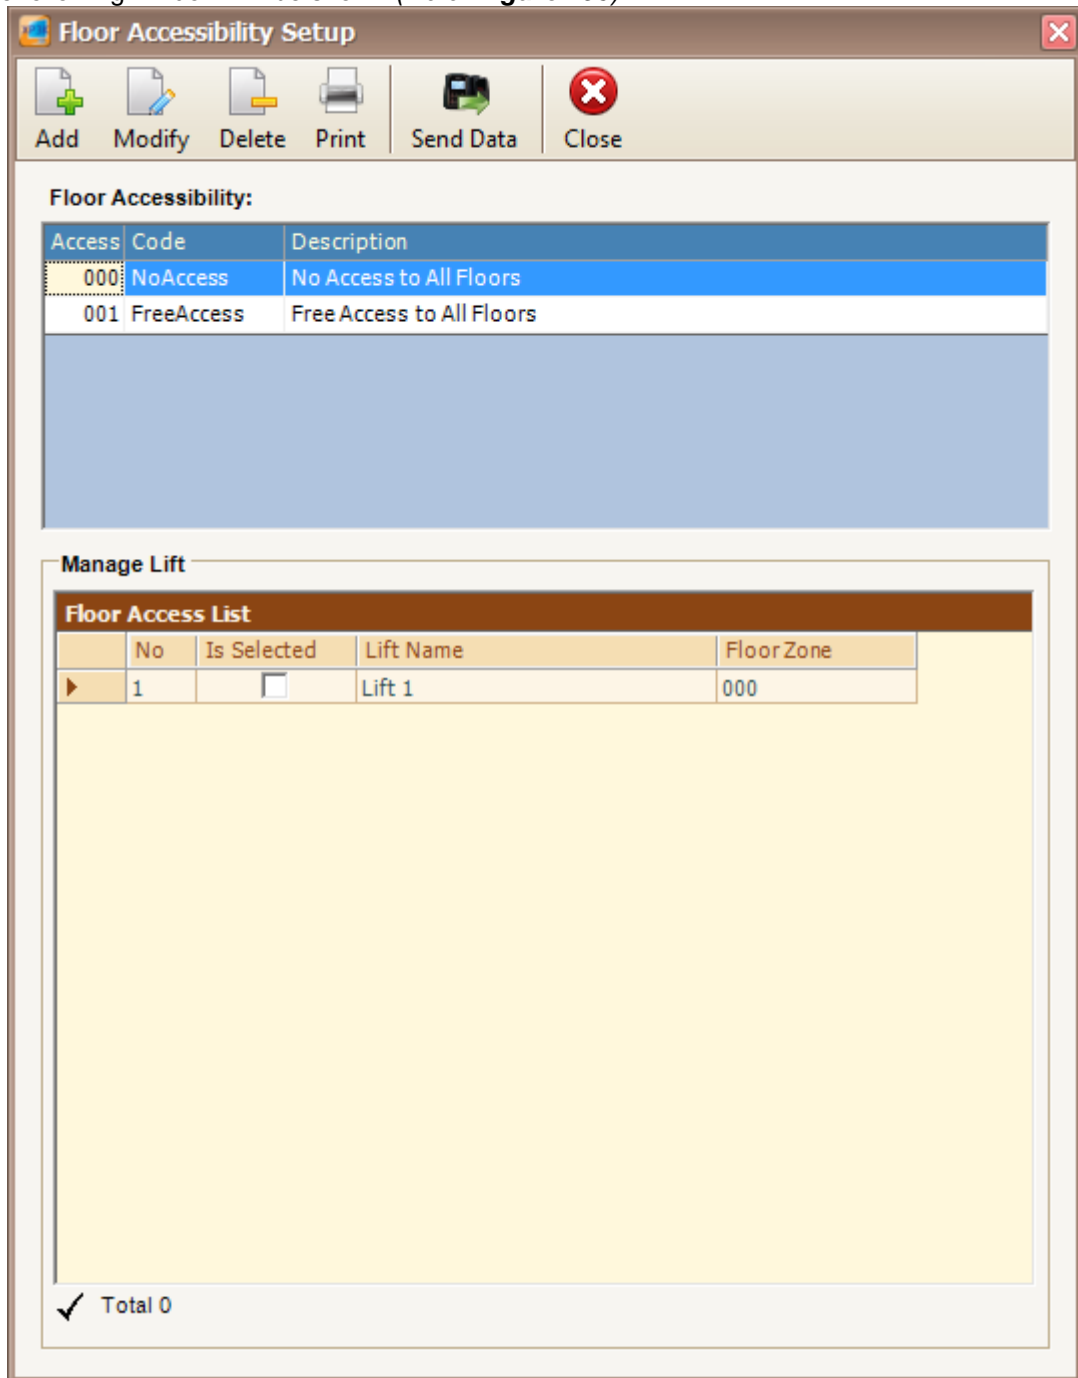

Figure 190 - Floor Accessibility Setup
2. The following window will be shown (Refer **Figure 190**).